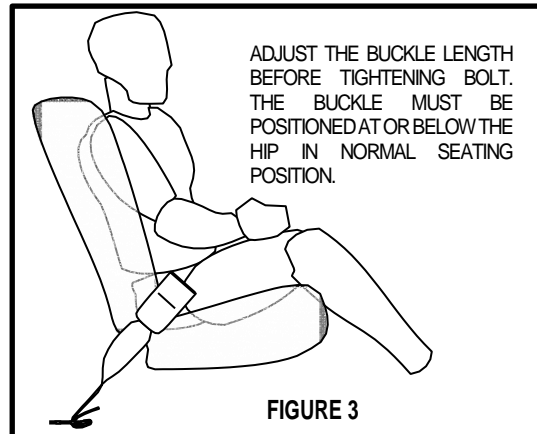

FIGURE 3
3. For the adjustable webbing buckle: Adjust buckle length so that buckle is at or below the hip as shown in figure 3 before mounting to vehicle structure.
5. For the adjustable webbing buckle: Adjust buckle length so that buckle is at or below the hip as shown in figure 3 before mounting to vehicle structure.